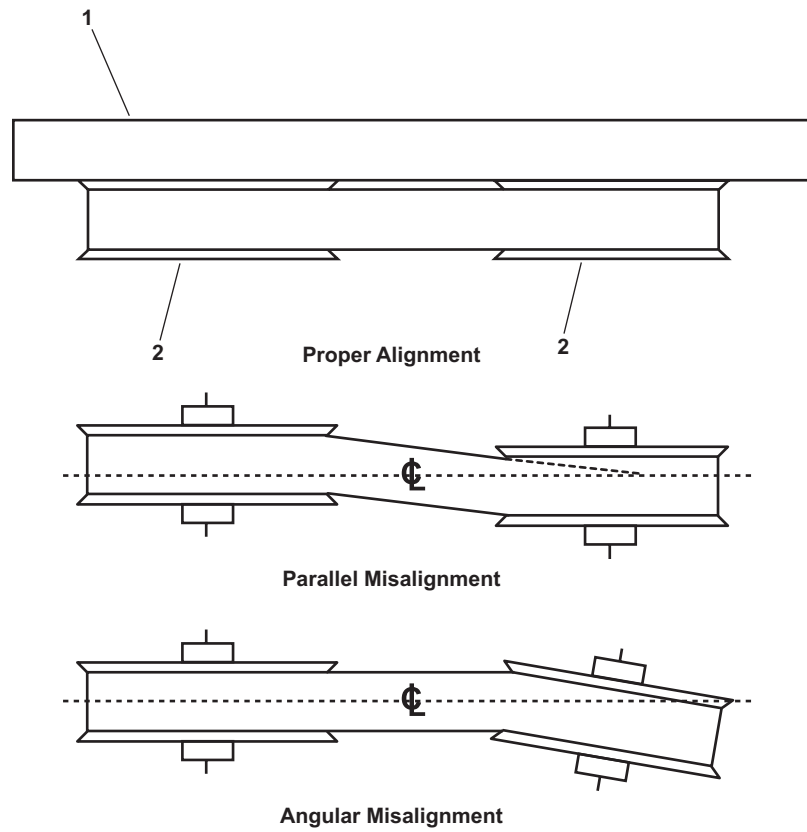
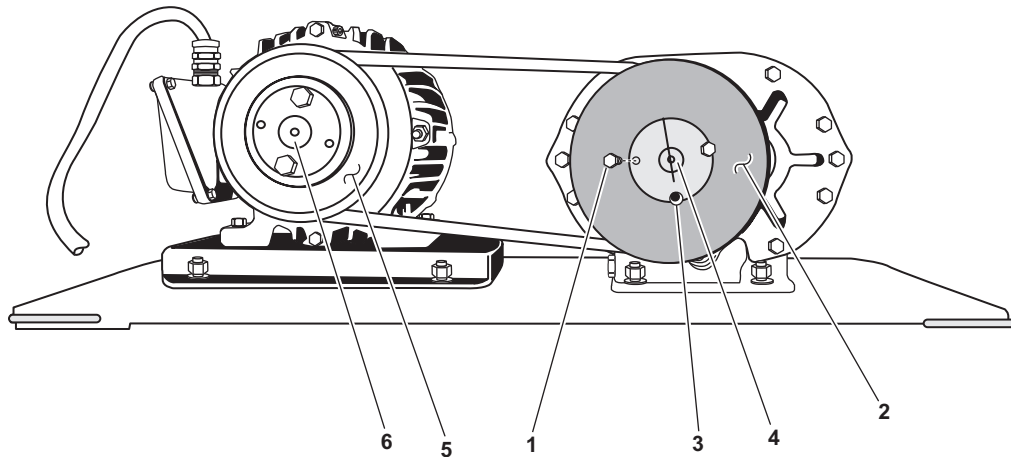

Figure 3. Sheave Alignment
Figure 4. Blower Sheave Removal
3. Check for parallel sheave misalignment (figure 3) by placing a suitable straight edge (figure 3, item 1) against the machined surface of the sheaves (figure 3, item 2). Ensure that the straight edge is perpendicular to both shafts while maintaining contact.
4. If the sheaves are not aligned, remove the two bolts (figure 4, item 1) on the blower sheave (figure 4, item 2). If the sheaves are aligned, proceed to step 2 of the assembly procedure.
8. Install one of the bolts (figure 4, item 1) in the forcing hole (figure 4, item 3) and tighten until the blower sheave is freed from the blower shaft (figure 4, item 4).
9. Remove the bolt (figure 4, item 1) from the forcing hole (figure 4, item 3).
1. Position the blower sheave (figure 4, item 2) on the blower shaft (figure 4, item 4) so that the suitable straight edge (figure 3, item 1) rests against the machined surfaces of the blower sheave (figure 4, item 2) and the motor sheave (figure 4, item 5). Ensure that the suitable straight edge is perpendicular to the blower shaft (figure 4, item 4) and the motor shaft (figure 4, item 6) while making contact with the blower and motor sheaves.
2. Once parallel alignment is achieved, install the two bolts (figure 4, item 1) in the blower sheave (figure 4, item 2).
3. Check for angular sheave misalignment (figure 3) by placing a suitable straight edge (figure 3, item 1) against the machined surface of the sheaves (figure 3, item 2). Ensure that the straight edge is perpendicular to both shafts while maintaining contact.
1. Place the suitable straight edge (figure 3, item 1) against the machined surface of the sheaves (figure 3, item 2). Ensure that the straight edge is perpendicular to both shafts while maintaining contact.
2. Keeping the suitable straight edge on the sheaves (figure 3, item 2), slide the motor (figure 1, item 7) away from the blower (figure 1, item 9) until the proper belt tension is achieved. Proper tension is achieved when the belt may be deflected 1/2 inch (13 mm) at its midpoint (figure 2) when applying approximately 4 to 5 pounds (1.8 to 2.3 kg) of force to the belt. A new belt should be tensioned tighter (approximately 3/8 inch (10 mm) deflection).